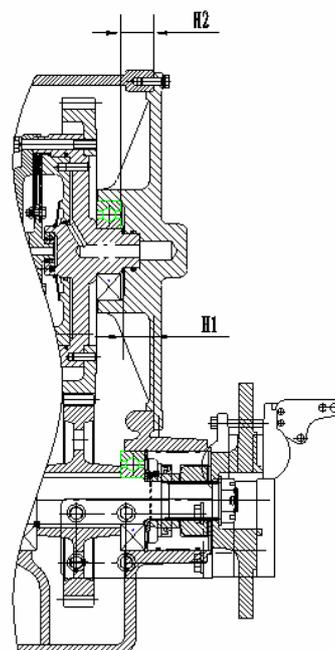

Figure 12
1) Install the plug (9) and the seal gasket (2) on the end cover (3). The plug (9) should be tightened not to leak oil.  $28 \pm 4 \text{ Nm}$.
2) Install the o-ring (8) on the joint surface of the box body, and place the seal gasket (1) horizontally, then install and tighten the end cover (3) with the washer (4) and the bolt (5). $52 \pm 7 \text{ Nm}$.
★ Measure the distance H2 between the right end surface of bearing and the end surface of box body, then measure the same dimension H1 of the end cover. Select the seal gasket (1) on the basis of the above dimension to make sure the clearance between the right end surface of bearing and the end cover is 0.3~1mm after tightening. (refer to the Figure 12)
3) Joint the fixed mount (6) on the box assembly with the bolt (7).  $25 \pm 3 \text{ Nm}$
32. Install the output flange (14) on the front end of the output axis. Install the washer (12) and tighten with the bolt (11), and then lock with the anti-thrust gasket (10).  $52 \pm 7 \text{ Nm}$.